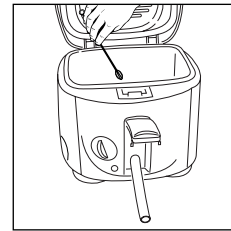

fig. 16
- A plastic pipe cleaner is supplied with the product for use in cleaning the oil drainage tube (Fig. 16). It is essential that no alternative pipe cleaners are used as DAMAGE may occur to the tube.